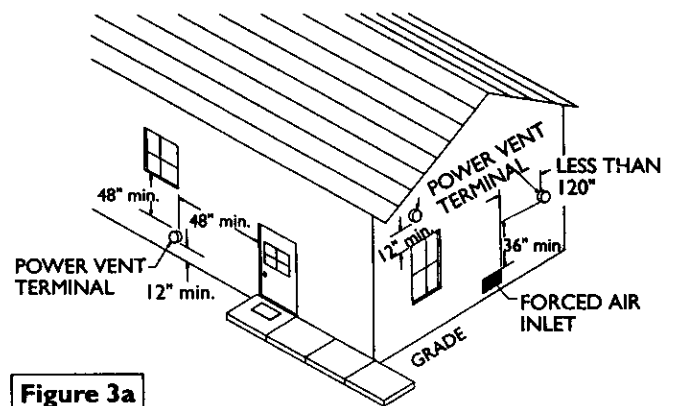

Figure 3a
- The Power Vent outlet terminal shall terminate at least 3 feet above any forced air inlet located within 10 feet. Figure 3a.
- The Power Vent outlet terminal shall terminate at least 4 feet below, 4 feet horizontally from or 1 foot above any door, window or gravity air inlet into the building. Figure 3a.